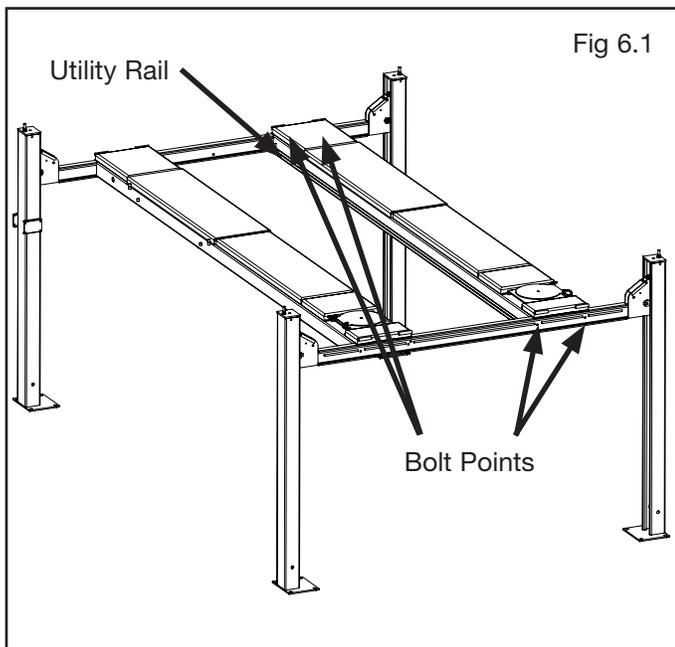

Fig 6.1
3. Position the OFF SIDE RAMP on top of the crosstubes with the UTILITY RAIL located inside. Align the holes in the ramp with the holes on the crosstubes and bolt together (torque to 35-45 Ft/lbs) using four M12 x 1.75 hex bolts, nuts, and washers. (See Fig. 6.1)